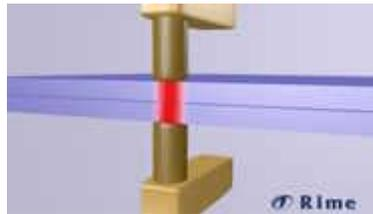

Figure Weld-19: heating in spot welding
4. As in figure Weld-19, the current is flowing if the electrodes have been positioned correctly, the current is switched on, which flows from one electrode to the other with a very high power. The material is heated so much that it liquefies and so both workpieces join.